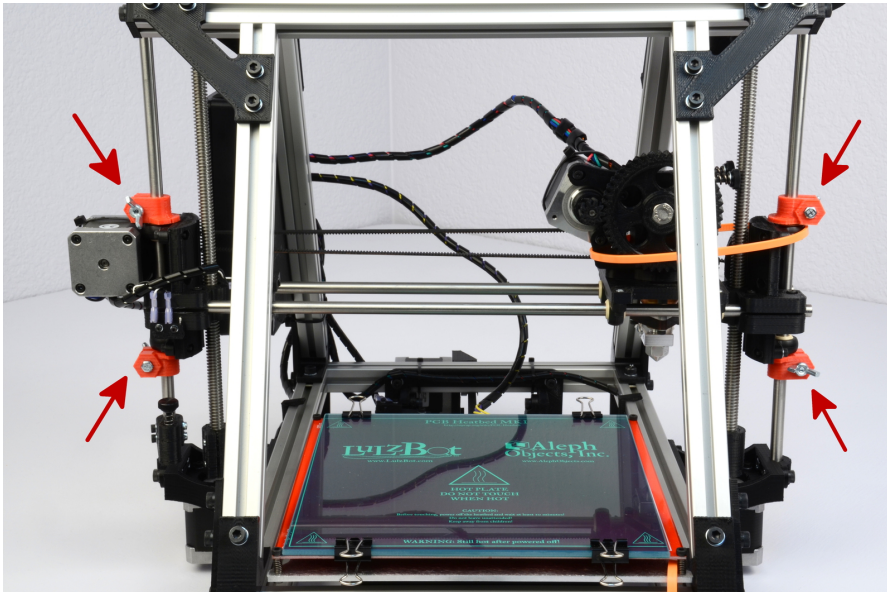

Figure 1.2: Red Shipping Clamps
10. Remove the four red shipping clamps above and below the x-end motor mount and idler (Fig. 1.2, page 13).